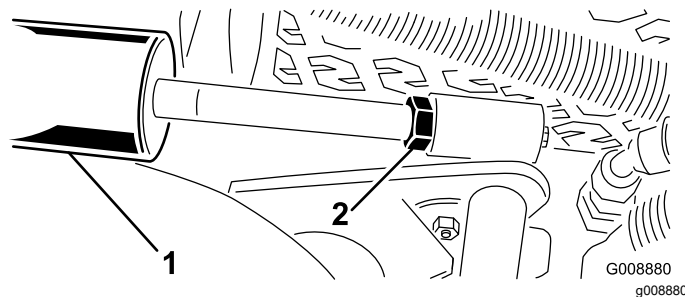

Figure 29
1. Loosen the jam nut of the lift cylinder (Figure 29).